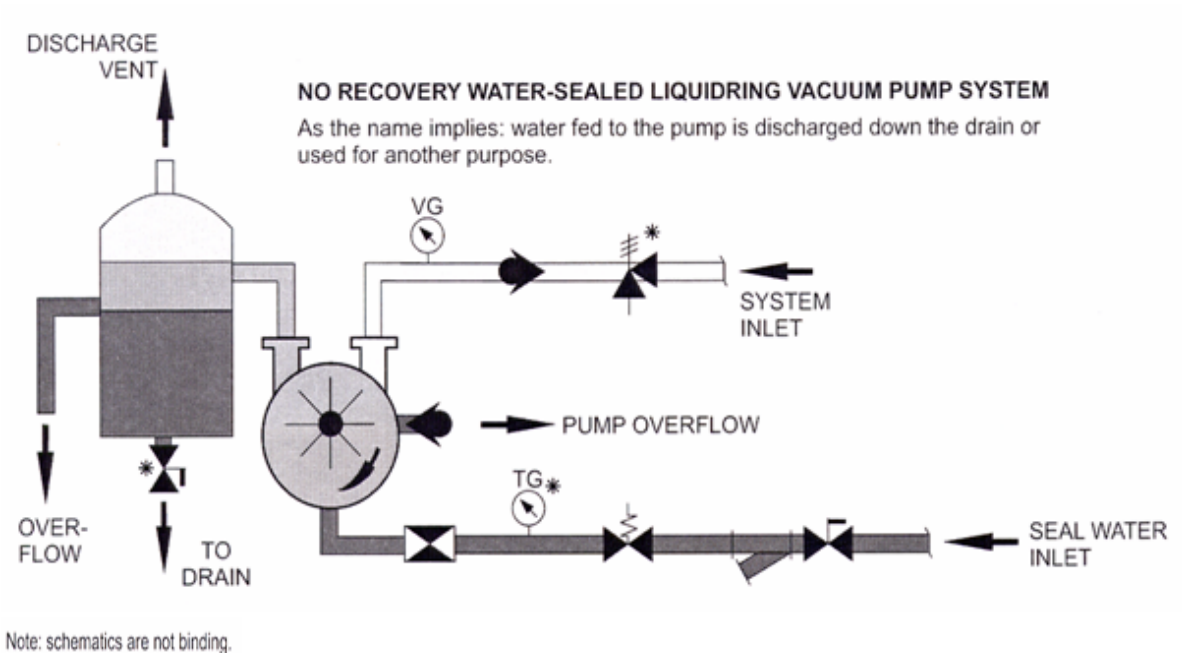

FIGURE 2
NO SEALANT RECOVERY (Figure 2, page 12)
There are three (3) sealing liquid arrangements as shown in figure 2,3,4 based upon the amount of sealing water recovered and recirculated. The water available at the pump site may contain minerals which when used as a seal water will cause an undesirable scale to form inside the pump. This should be a consideration in selecting the most satisfactory arrangement, as any pump size and model can have any one of the three arrangements (Figures 2,3,4).